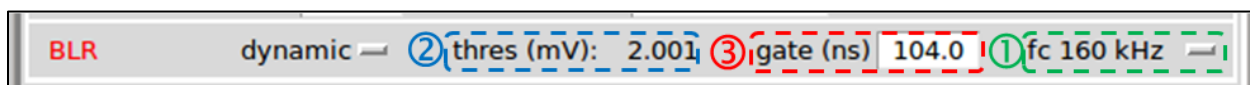

Figure 19: Dynamic BLR parameters.
The signal from the previous filter module is filtered by a new low-pass filter. This tracking filter lets through any slow variations of the signal. The **cut-off frequency “fc”** ① (Figure 19) of this low-pass filter is 20 kHz, 160 kHz, 640 kHz or 6600 kHz. It is a first order low-pass filter.
The baseline tracking by the low-pass filter is stopped when an event is detected. That means when the cleaned **signal after BLR exceeds a “± threshold” parameter value** ② (Figure 19). Then the baseline tracking stops while the value of signal samples is above the threshold and after a **duration defined in the “gate” parameter** ③ (Figure 19). Thus, the signal tracking is stopped during all the signal duration. When the baseline tracking is stopped, the computed baseline value is set to the baseline value just before the detected event. In case of pile up, the computed baseline value is equal to the baseline value just before the first detected event.